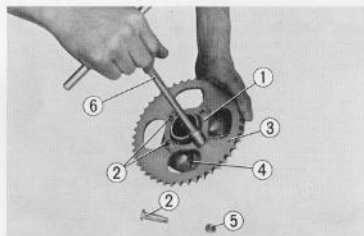

Fig. 4.96 Removing sprocket
9. Draw out the rear axle sleeve from the final driven flange, unlock the 8 mm tongued washer ① and remove the driven sprocket setting bolt ②. Disassemble the final driven sprocket ③ and final drive flange. ④. (Fig. 4.96)